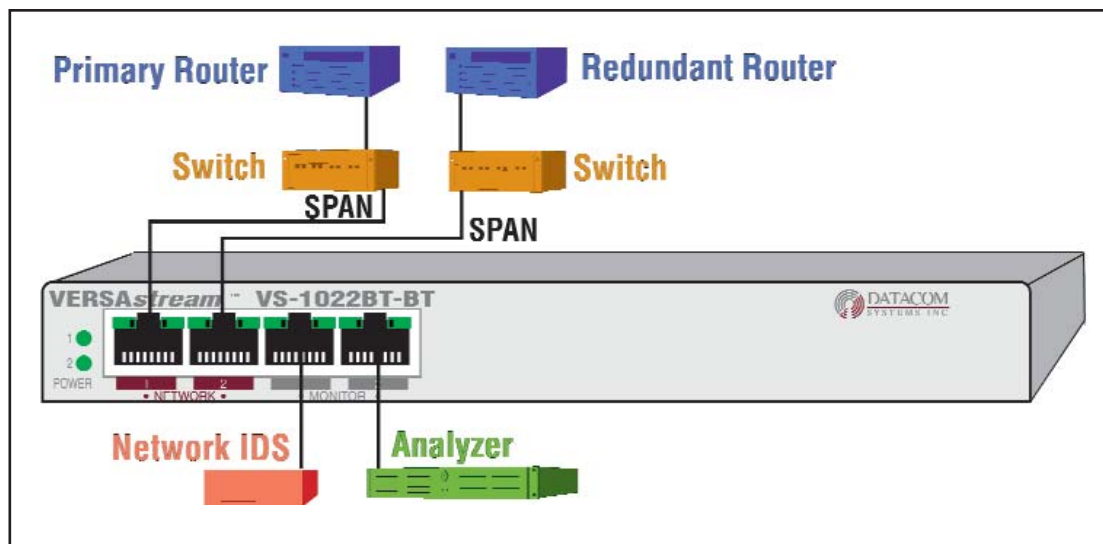

Figure 15 - VS-1022BT-BT Hardware Installation
through **Figure 15** depict typical application installations of VERSAstream™ SPAN aggregator/regenerator series models.
**Primary/Redundant Router Application** — shown in **Figure 15**, focuses on monitoring and analysis of the SPAN output of a Primary and Redundant network aggregated into one single stream of data. This VS-1022SX-SX is similar to other VERSAstream™ SPAN series installations:
To connect the VERSAstream™ VS-1022BT-BT SPAN Series aggregator/regenerator, refer to **Figure 15** and follow these steps: